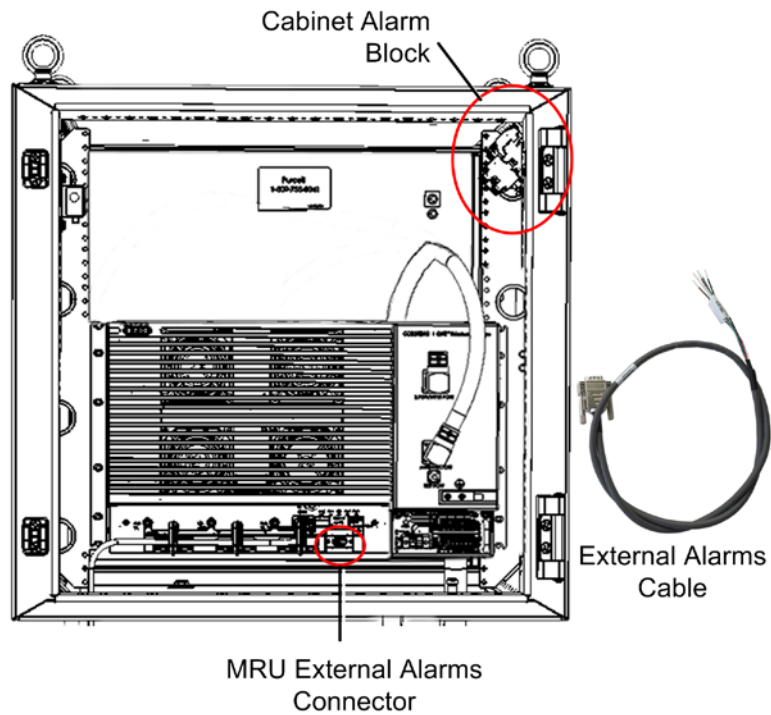

Figure 4-21. Location of External Alarms Connector and Cabinet Alarms Block
- 2. Route the cable alarm wires to the alarm block, located on the upper right corner of the cabinet. See Figure 4-21.